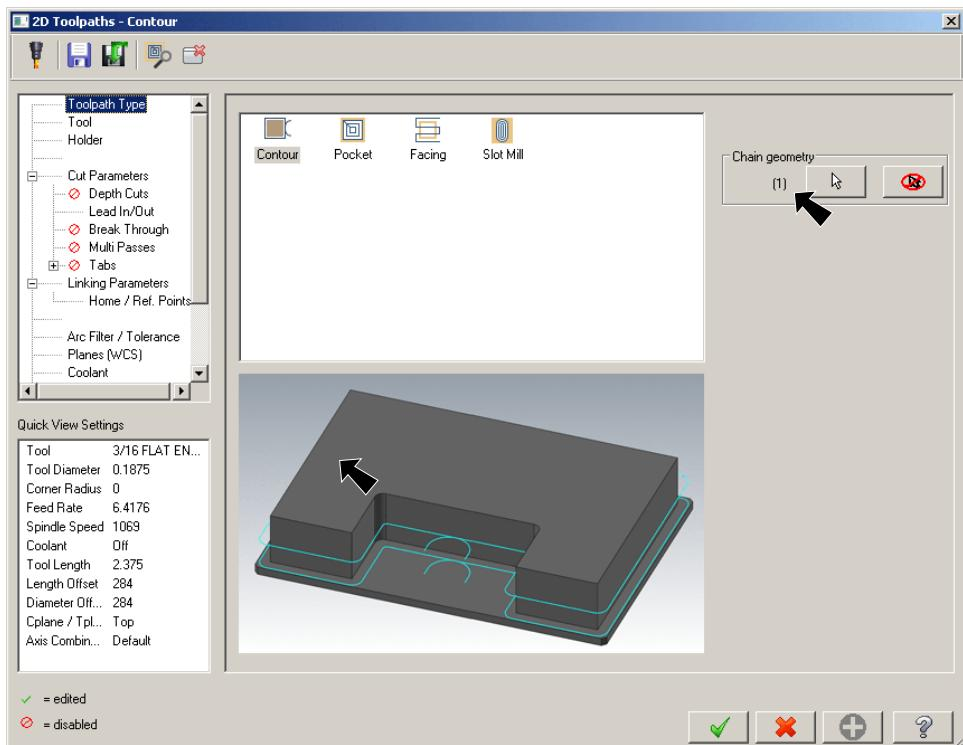

Fig. 74
Step 6. In the 2D Toolpaths Contour dialog box confirm **1 Chain** is selected, Fig. 74.